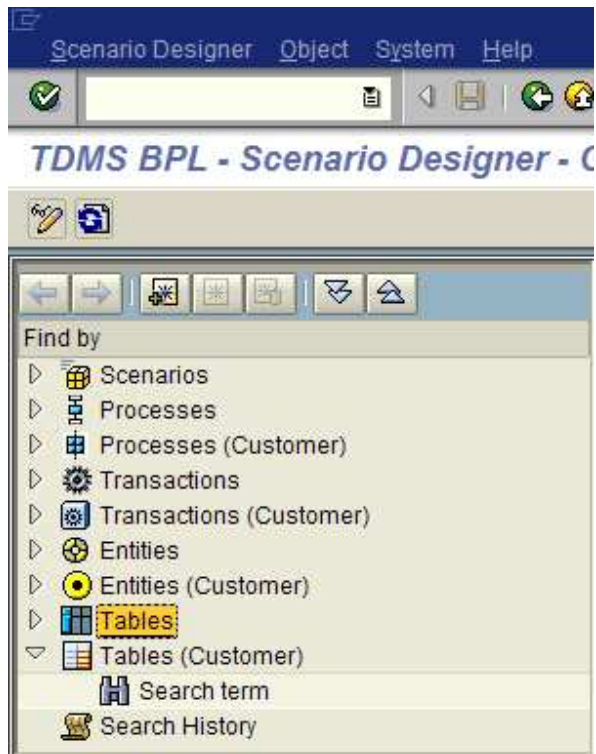

Figure 7: To search for the predefined table MVER in the material business context click the icon for predefined tables in search area
- In search area, click  **Tables** (see Figure 7).